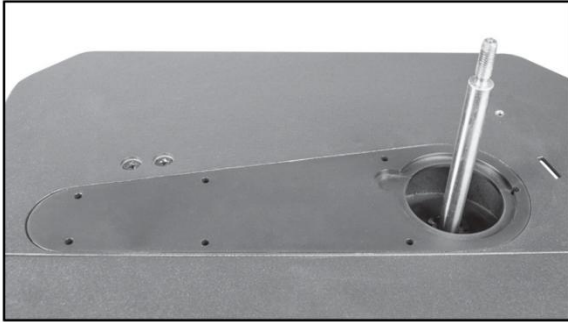

Figure 1: installing the spindle Cover.
- 2- Install the table bracket into the table Figure 1.